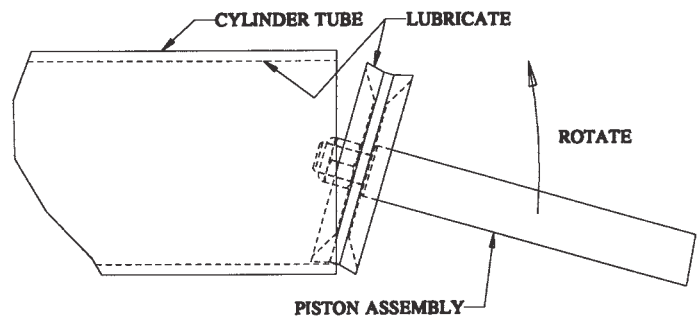

Fig. 1
- 10.** Place the center of the piston cup on the inside edge of the cylinder tube and carefully rotate the piston cup into the tube. *See Fig. 1.* Then, slide piston assembly into the cylinder tube.